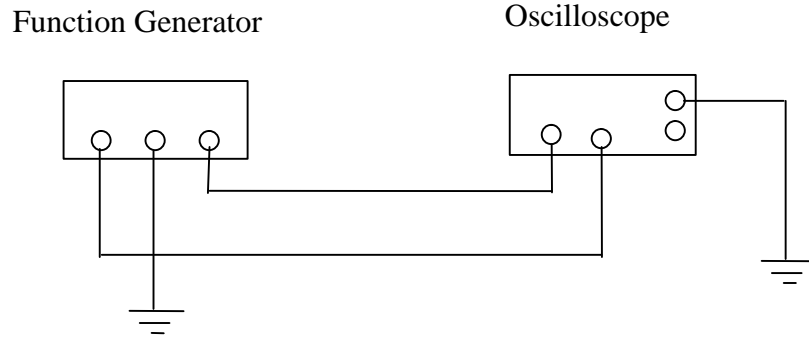

Figure 1: The function generator and oscilloscope connection
1. From the instrument panel pull down the Function generator and Oscilloscope and connect them as shown in Figure 1. You can select different colors of the wires by double clicking the line and choosing the colors. Select sine wave from the function generator. Set frequency to 1 kHz and amplitude to 10V. On the oscilloscope start with the Time Base of 0.2ms/div and channel A, B settings of 5V/div.